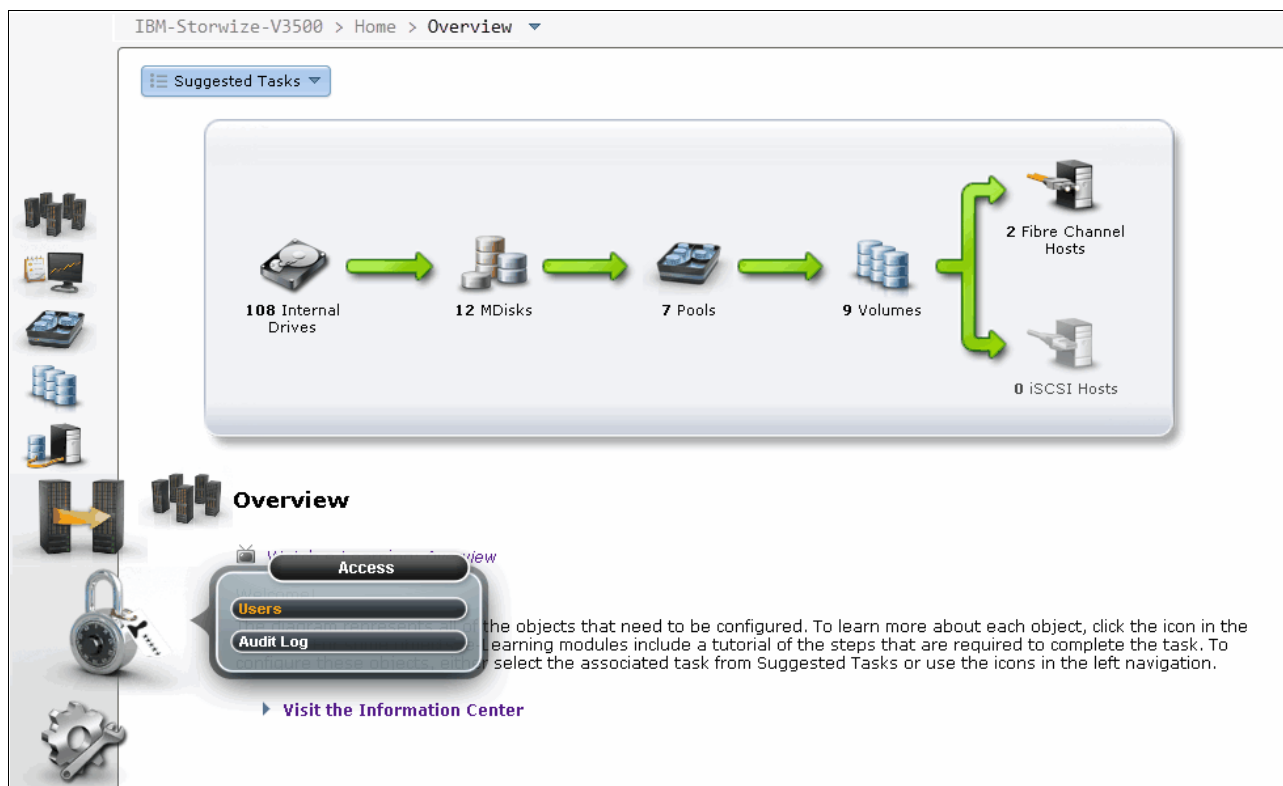

Figure A-6 Open user section
1. Open the user section, as shown in Figure A-6.